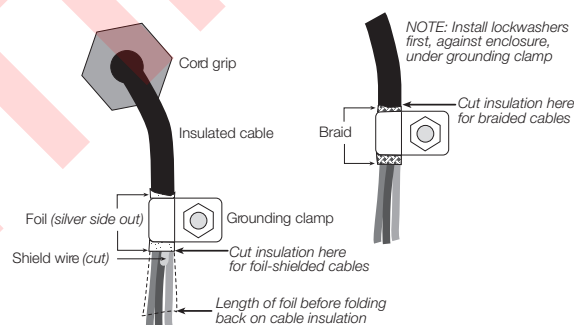

Figure 2-1. Grounding Cables
- **Foil shielded cables** – strip insulation and foil from cable 1/2 inch (13 mm) past the grounding clamp (see Figure 2-1). Fold the foil shield back onto the cable where it passes through the clamp. Ensure silver (conductive) side of foil is outward to contact with the grounding clamp.
- **Braided shielded cables** – strip cable insulation and shield to just past the clamp. Strip another 1/2 inch (15 mm) of insulation to expose the shield where it passes through the clamp (see Figure 2-1).
4. Route stripped cables through cord grips and clamps. Ensure shields contact clamps as shown in Figure 2-1.